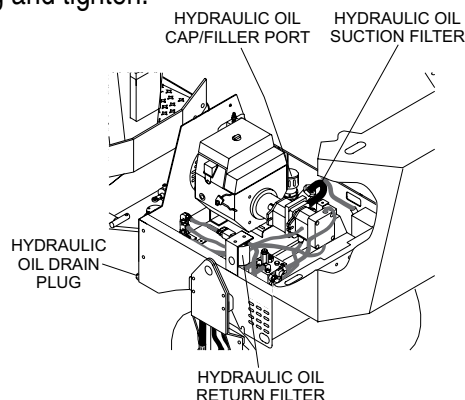

Figure 26. Hydraulic Filter Locations
The suction filter (Figure 26) is located inside the hydraulic tank. This filter is attached to the fitting connected to the hydraulic pump suction hose.
The return filter (Figure 26) is located at the front of the engine compartment. Replace both filters according to the Table 5.
2. Remove the hydraulic oil drain plug (Figure 26) and drain the hydraulic oil. Dispose of the used oil in an